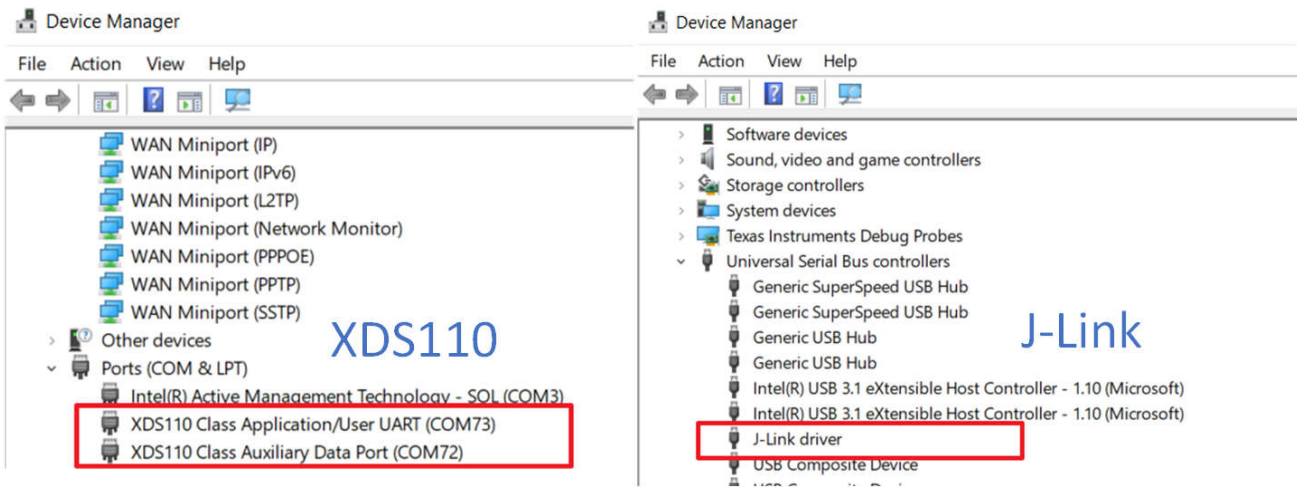

Figure 6-2. Device Manager View
2. Plug in the debugger and check whether it is found by the computer. If it does not show like Figure 6-2, check for computer limitations.